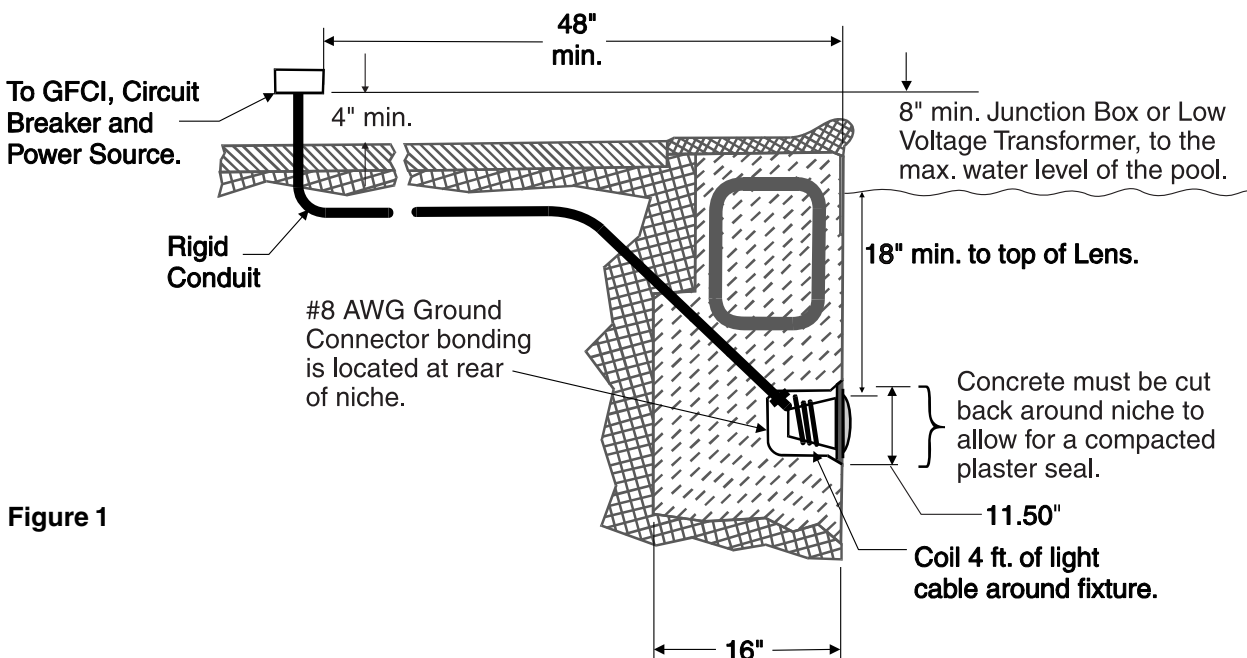

Figure 1
BEFORE STARTING: The following steps (1-6) describe the tasks that must be completed by the electrician before the IntelliBrite light fixture is installed. See Figure 1 diagram.
- The Junction Box (or, for 12 volt models, the low voltage transformer) is located at least 8 inches above the maximum water level of the pool and at least 48 inches from the edge of the pool; see Figure 1.
- The wet niche is properly installed so that the top edge of the underwater light's lens is at least 18 inches below the surface of the water in the pool; see Figure 1. (Not more than 20" depth in Canada.)
- The wet niche is properly electrically bonded and grounded via the No. 8 AWG ground connector located at the rear of the niche; see Figure 1.
1. Feed cord through conduit to Junction Box, leaving at least four (4) feet of cord at the light fixture to coil around the light; see Figure 1. This four (4) feet of cord around the light allows the light to be serviced after the pool is filled with water.
- The Junction Box (**or, for 12 VAC models, the low voltage transformer**) is located at least 8 inches above ground level and at least 48 inches from the edge of the pool; see Figure 1.
- The wet niche is properly installed so that the top edge of the underwater light's lens is at least 18 inches below the surface of the water in the pool; see Figure 1.
5. Leave at least four (4) feet of cord to coil around the light fixture; see Figure 1 on page 2. This four (4) feet of cord coiled around the light allows the light to be serviced after the pool is filled with water.
6. Cut the cord at the Junction Box, leaving at least size (6) inches of cord to make connections.
7. Strip six (6) inches of the outer cord jacket from the cord to expose the three (3) insulated wires – be careful not to damage the insulation on the three inner wires.
8. Connect all three (3) wires to the corresponding circuit wires in the Junction Box (black wire to power, white wire to common, and green wire to ground) and secure the Junction Box cover in place.